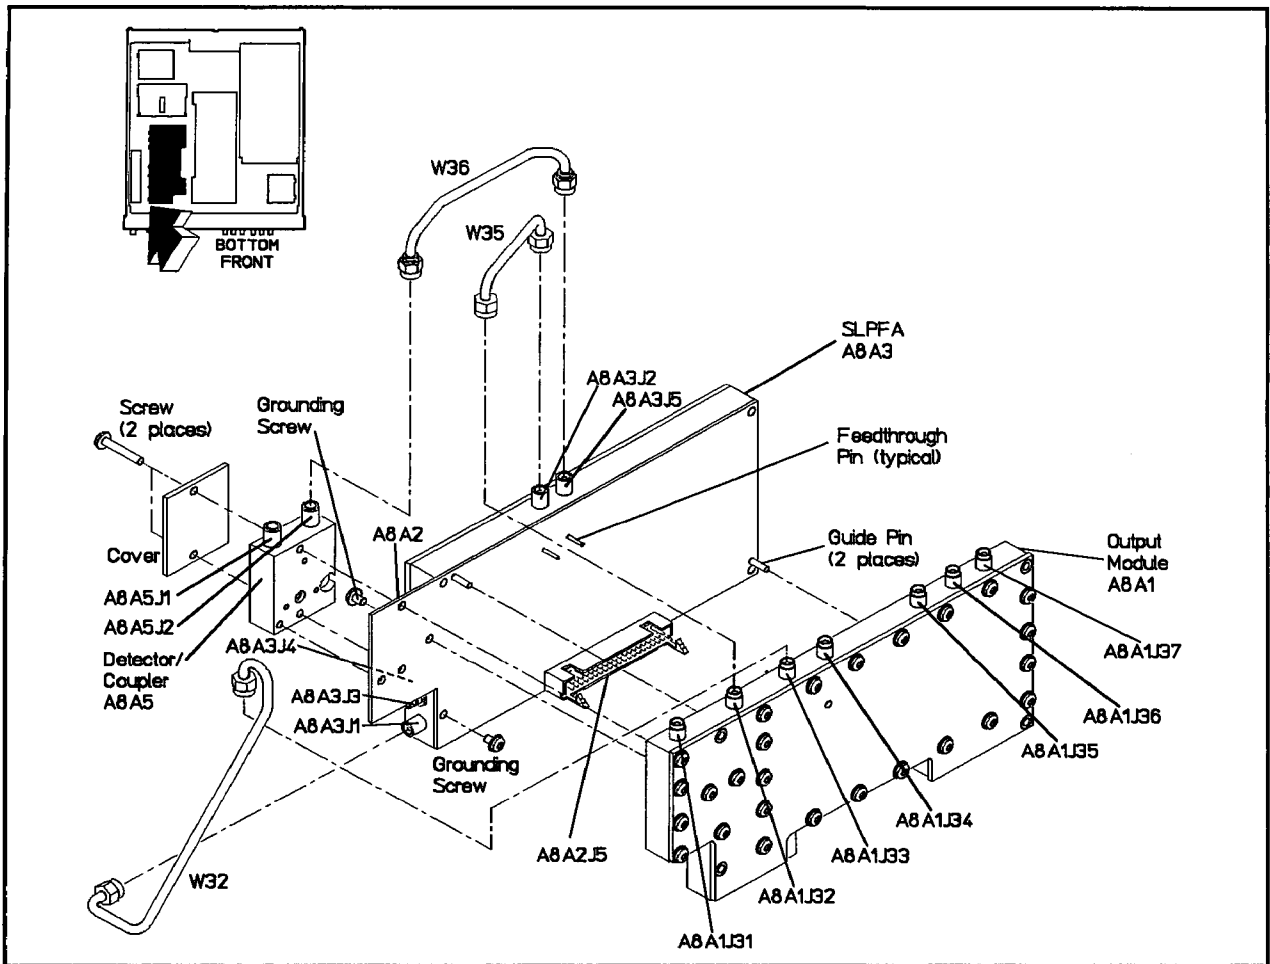

Figure 5-35. Output Module, SLPFA Module, and Coupler/Detector Separation
1. Refer to "Semi-Rigid Coaxial Cables" and Figure 5-35. Then, using a 5/16 in open end wrench, remove W36 connecting the SLPFA module 0.01–1 GHz IN to the coupler/detector.
2. With the SLPFA module facing downwards, use a size 10 TORX® screwdriver to remove the single TORX® screw on the exposed portion of the printed circuit board, A8A3. See Figure 5-35.
4. Using a size 10 TORX® screwdriver, remove the two screws from the coupler/detector and metal cover. See Figure 5-35.
1. Refer to "Semi-Rigid Coaxial Cables" and Figure 5-35. Then, using a 5/16 in open end wrench, remove the following semi-rigid coaxial cables:
2. With a size 10 TORX[®] screwdriver, remove the single TORX[®] screw on the exposed portion of the printed circuit board, A8A3. See Figure 5-35.
7. Refer to “Semi-Rigid Coaxial Cables” and Figure 5-35. Then, connect and hand tighten the following Semi-Rigid Coaxial Cables: